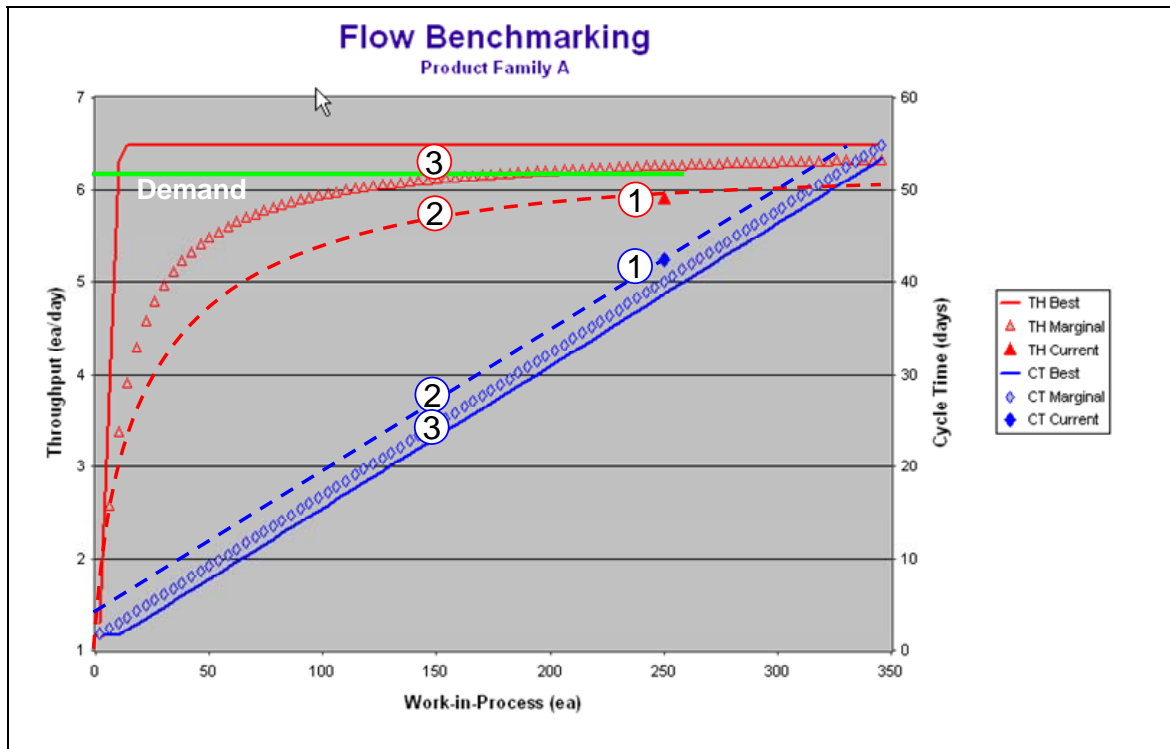

Figure 1: Flow Benchmark Graph
- E. The green line (—) shows customer demand. In the Figure 1 example, you can see that your current throughput is not achieving the throughput needed to meet customer demand, i.e. the solid red diamond at red point 1 is below the green line.
- For the example in Figure 1, your value stream is not performing close to best case, as a matter of fact; it's not even in the lean zone.